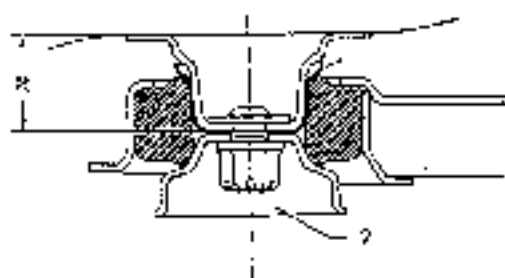

Fig. 35-1/4
In the case of step bearings with the dimension "a" = 35 mm the metal cap (1) Part No. 180 358 0059 should be installed on the lower section of the cup in order to prevent the torque arms from striking against the chassis base panel when the springs are fully depressed. When the metal cap is installed, the torque arm is moved to a slightly lower position, so that it cannot strike against the chassis base panel. Only 30 mm cups (2) Part No. 180 352 0067 can be used together with the metal cap (Fig. 35-1/4).